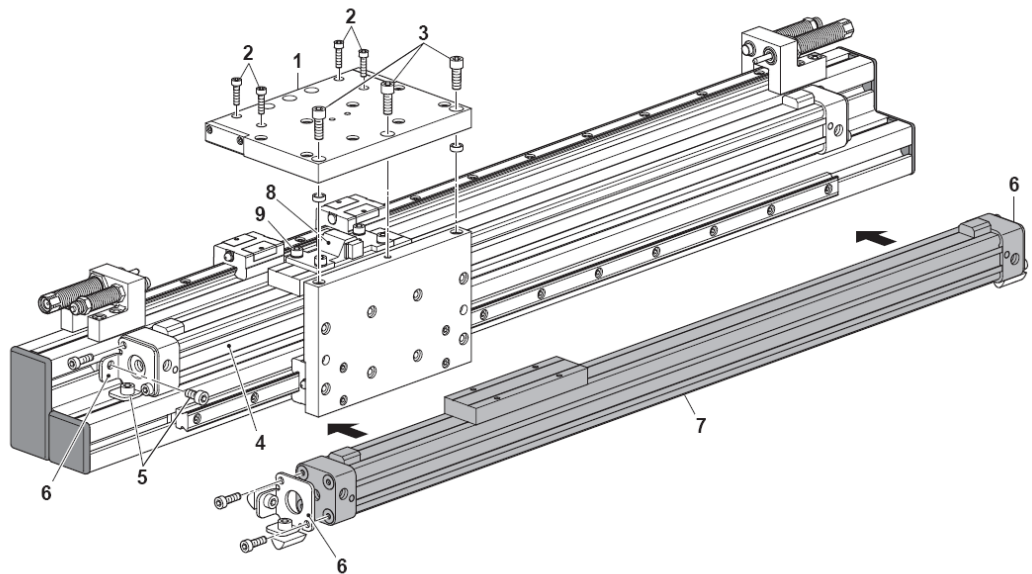

Fig. 42 Commissioning the gantry module
2. Unscrew the cap screws (Fig. 42, 2) and (Fig. 42, 3) and remove the slide plate.
3. Release the screws (Fig. 42, 5) and remove the cylinder (Fig. 42, 4).
4. Unscrew the fastening (Fig. 42, 6) on the linear cylinder.
5. Loosen four cap screws (Fig. 42, 9) and remove the actuator (Fig. 42, 8).
6. Fasten the actuator (Fig. 42, 8) to the new linear cylinder with the cap screws (Fig. 42, 9).
7. Screw the fastening (Fig. 42, 6) back onto the new linear cylinder (Fig. 42, 7) in the correct position.
8. Fasten the new linear cylinder (Fig. 42, 7) with the cap screws (Fig. 42, 5).
9. Mount the slide plate (Fig. 42, 1) with the cap screws (Fig. 42, 2) and (Fig. 42, 3).